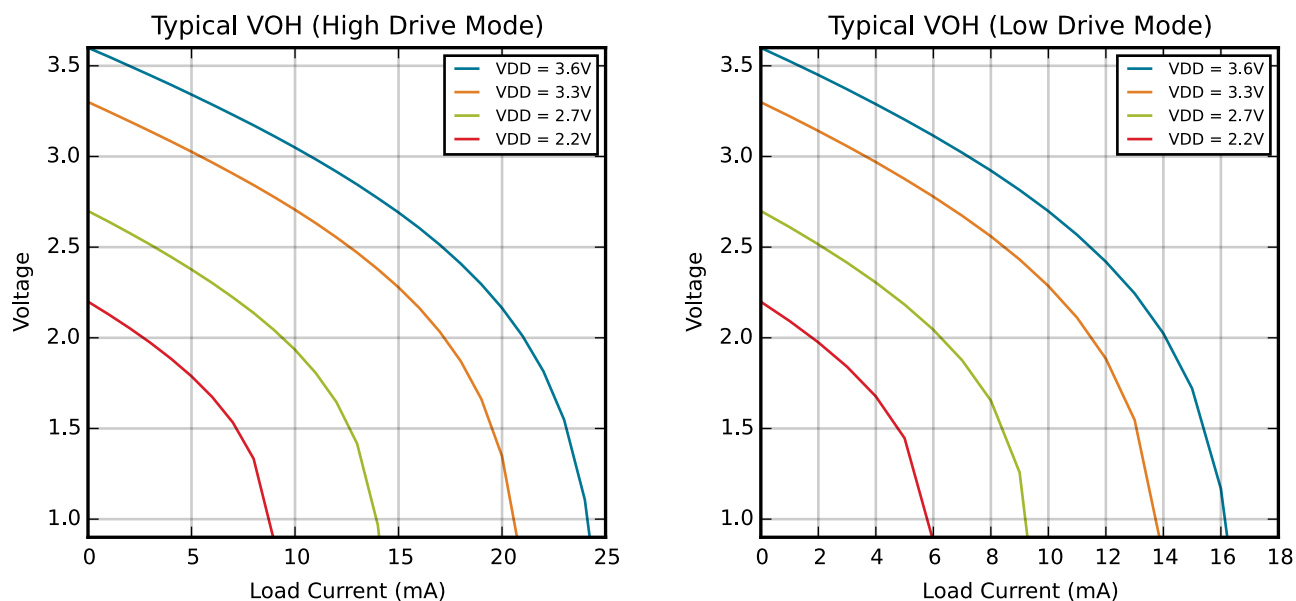
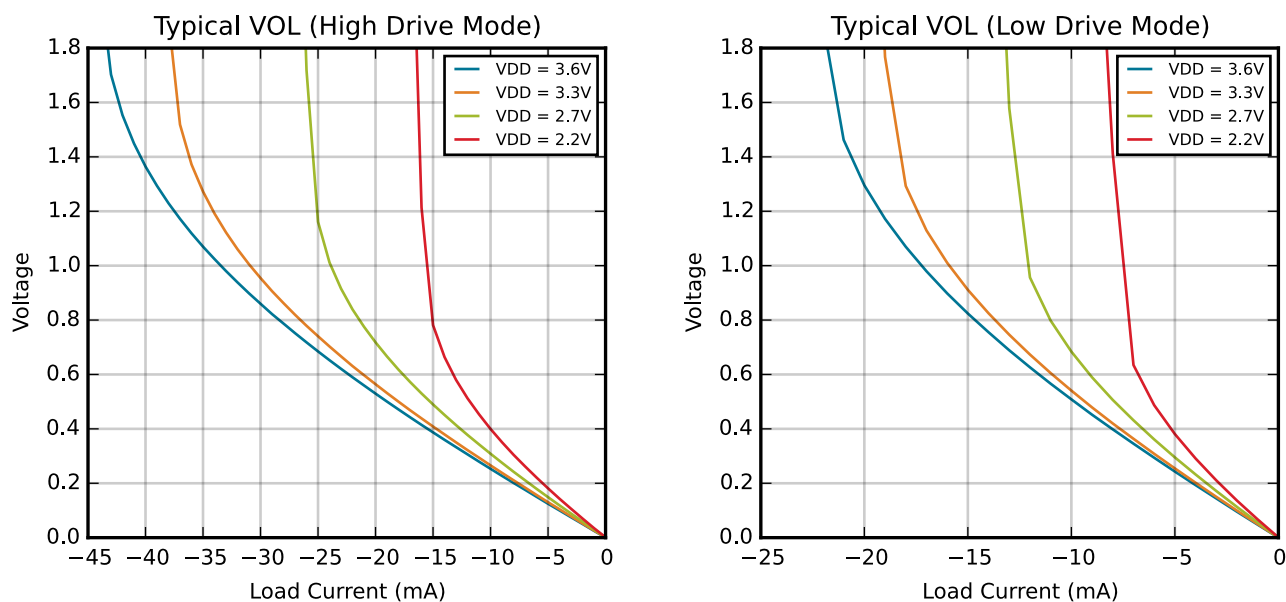

Figure 4.6. Typical V_{OH} Curves
Figure 4.7. Typical V_{OL} Curves
- See Figure 4.6 Typical V_{OH} Curves on page 32 and Figure 4.7 Typical V_{OL} Curves on page 32 for more information.